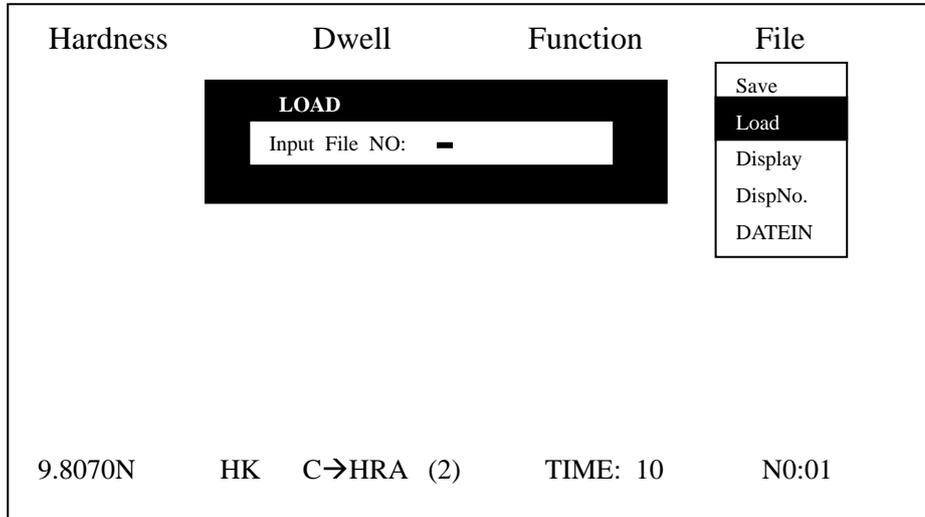

Figure 14
As shown in Figure 14, a dialogue box will pop up when Load is selected and you can then input the file number, which must be one of the file numbers already in store. When a wrong number is input, the screen will display “file not found”. Screen page as Figure 14 will appear again, waiting for re-input. If the correct file number is input, the display changes into the screen as shown in Figure 15 (demo display only) .
- 4.19 Load allows to display the content of the required file. Move direction keys to highlight Load and confirm by ENTER. The “Input File No:” prompt will appear on the screen. Input the required file number through num keys and confirm by ENTER when input completes. Then the content, data and calculation results contained in the selected file number will be displayed. Use ↑, ↓ keys to scroll through displays if there are a lot of data shown on the screen. Similarly, calculation results displayed can also be browsed by pressing direction keys. (Figure 14, 15, 16)